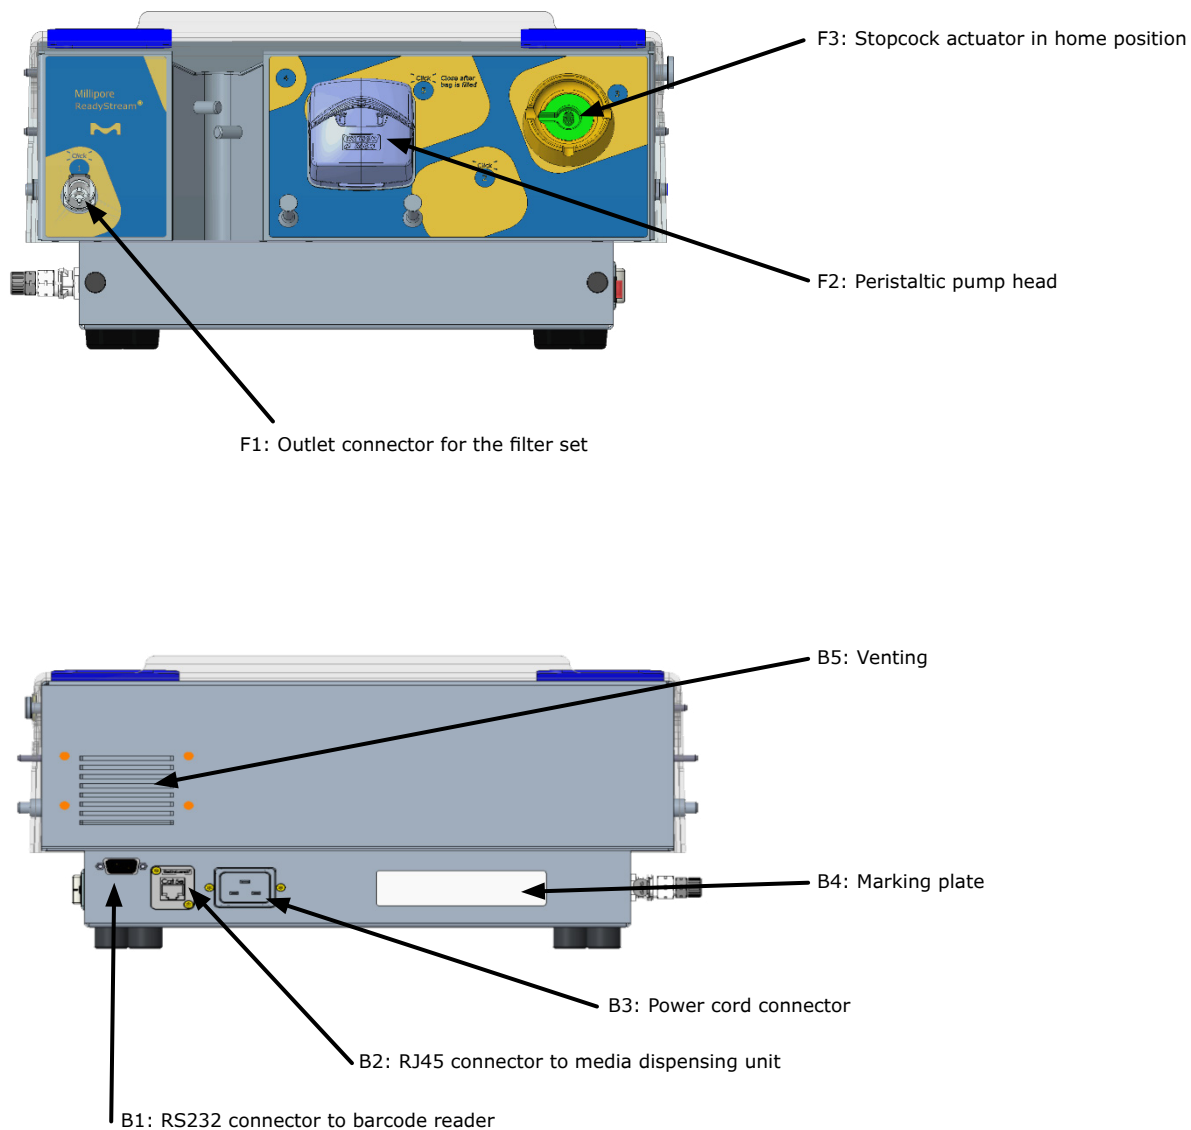
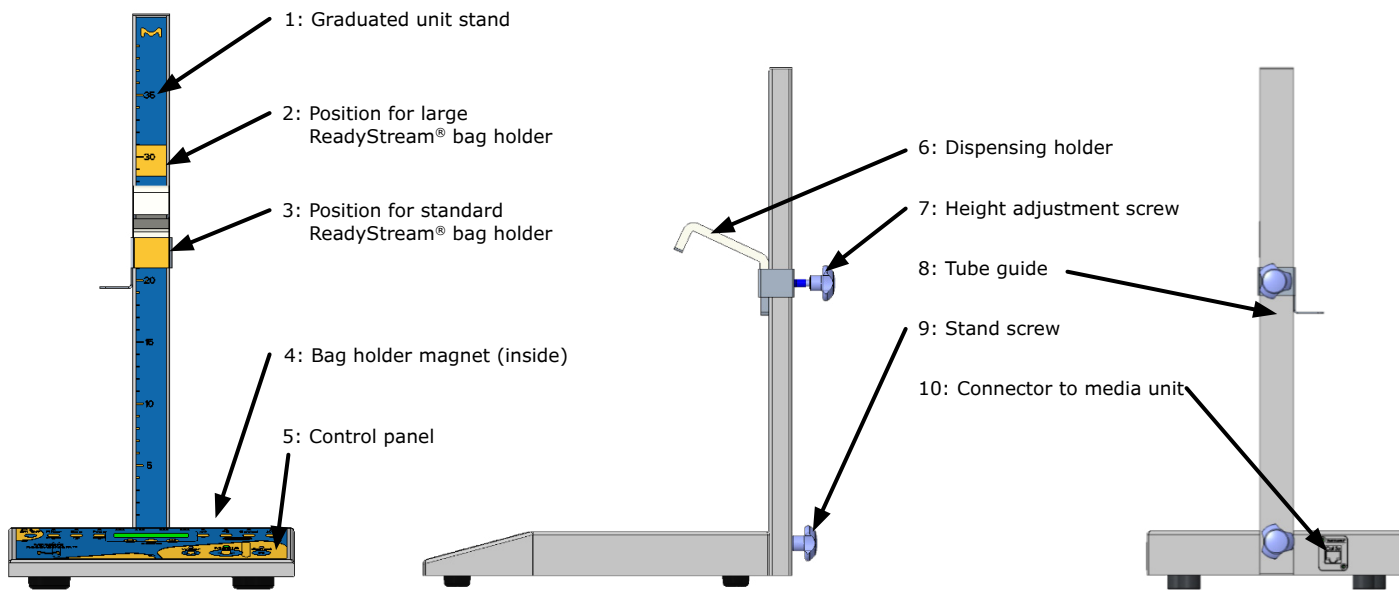

Figure 1: Front and back views of the ReadyStream® media preparation unit
Figure 3: Views of the ReadyStream® media dispensing unit
Connect the power cord to the back connector (Figure 1, B3) and to a wall socket. The cable must be easy to unplug in the unlikely event of an issue with the instrument.
Connect the provided RJ45 cable (Logo on the top) to the dispensing unit connector (Figure 3, 10) and to the media unit connector (Figure 1, B2).
Connect the barcode reader to the media unit using the RS232 cable and then tighten the screws on the connector (Figure 1, B1).
Place a vessel (≥ 1 L) on the dispensing unit. (Figure 3, 4).
- **During initialization, the stopcock actuator (Figure 1, F3) will turn to the home position. Do not touch the moving part.**